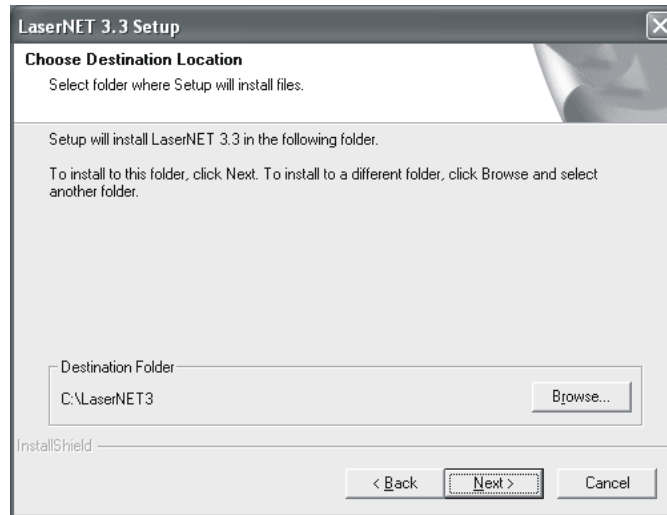
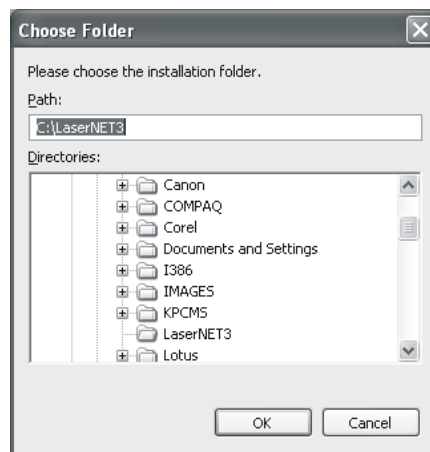

Figure 1-6. Choose Destination Location Screen
Figure 1-7. Choose Folder Screen
5. Choose Destination Location screen (Figure 1-6). Setup will automatically default to place the file in the C: drive. To choose another location to place the file, click on the **<Browse>** button. The Choose Folder screen will appear (Figure 1-7) to allow the user to place the program in a specified location. Click on the **<OK>** button after choosing a new folder to return to the Choose Destination Location Screen. After the destination for LaserNET has been chosen, click on the **<Next>** button to proceed to the next screen. Click on the **<Back>** button to go to the previous screen at any time. Click on the **<Cancel>** button at any time to end the InstallShield® Wizard.